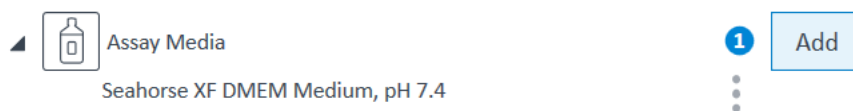

Figure 10. Assay Media
- 1 Click **Add** next to **Assay Media**. (See **Figure 10**.)
- 2 Enter a name for the assay media, or use the Media drop-down menu to select a media from the catalog. The default name when adding a new assay media is **Assay Media #** (# corresponds to how many assay media have already been added). (See **Figure 10**.)